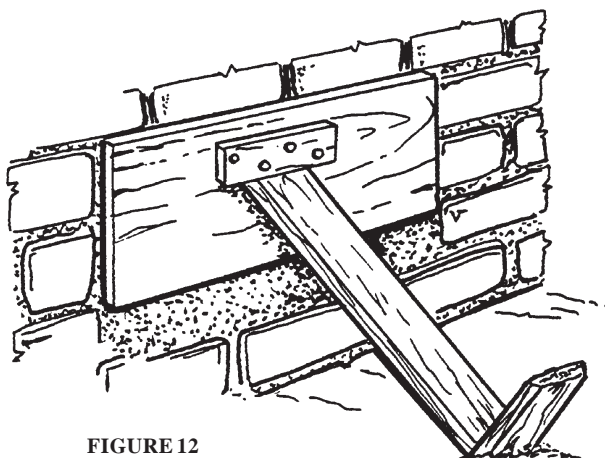

FIGURE 12
5. Further secure baffle board by nailing a small board 2" x 4" or 2" x 2" to baffle board. Hold or wedge baffle boards into place by placing 2" x 4" under board and staking it as shown in Figure 12.